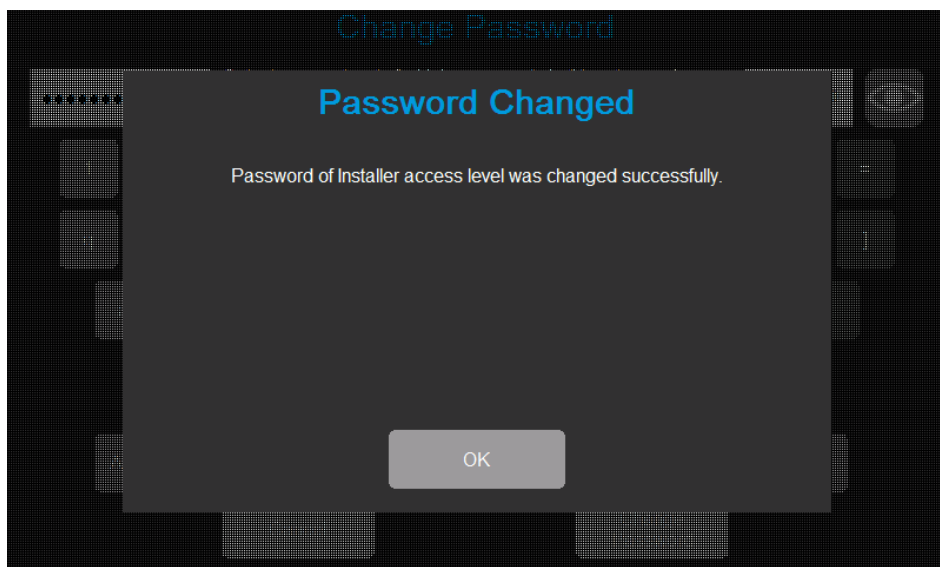

Fig. 78: Installer Password Changed confirmation dialog box.
8. When the Installer password is changed, the Password Changed dialog box opens. Select the OK button to proceed. Refer to Fig. 78.